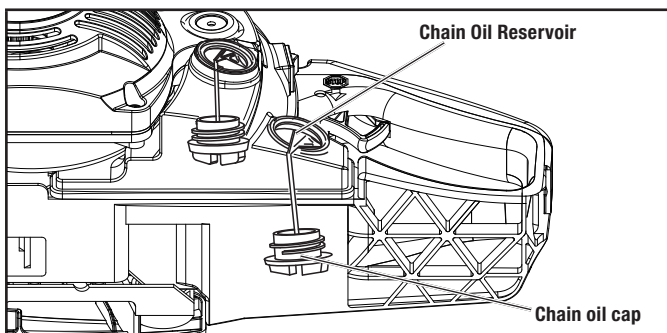

Figure 22
3. Unscrew the chain oil reservoir cap (Fig. 22).